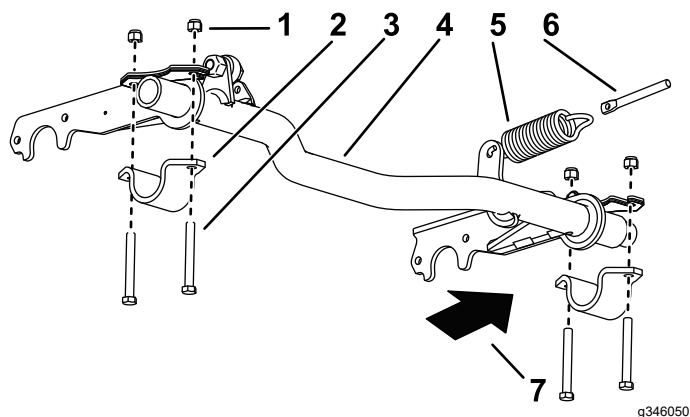

Figure 5
1. Connect the extension spring to the spring lever on the pivot tube and to the spring rod (Figure 5).
2. Loosely install the pivot tube bracket onto the right side (Figure 5).
3. Slide the right-hand side of the pivot tube into the right side pivot tube bracket (Figure 5).
5. Raise the left-hand side of the pivot tube to the frame and install it with a pivot tube bracket, 2 bolts (3/8 x 3 inch), and 2 locknuts (3/8 inch) (Figure 5).